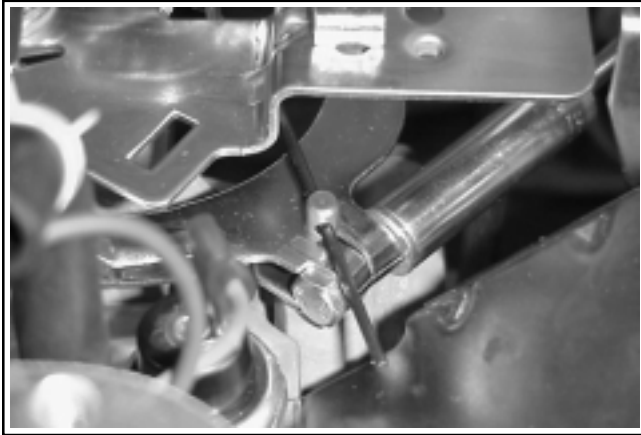

Figure 5B-34. Adjusting Governor Shaft.
5. Reconnect the dampening spring into its governor lever hole from the bottom. Reinstall the bushing and reattach the throttle linkage. See Figure 5B-30. Reattach the governor spring in the marked hole.